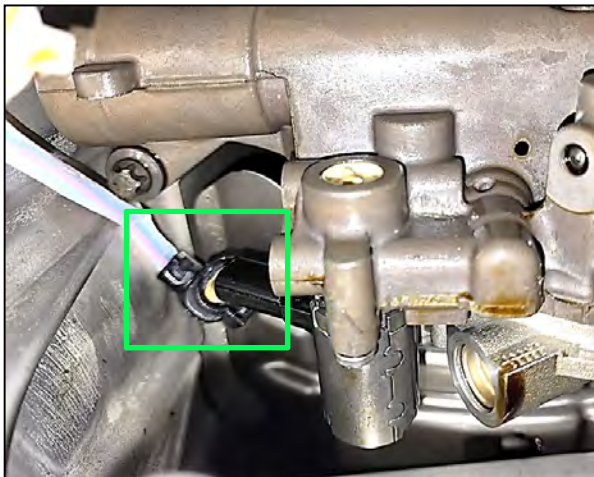

Figure 22
- a. Position the oil pump valve wiring harness connector of the NEW engine room sub-harness connector at an angle as shown in Figure 22.